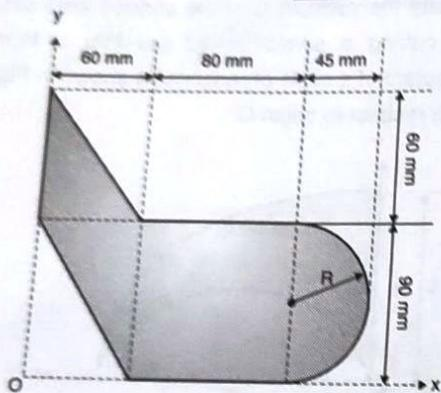

Fig. Q. 8
- Q. 8** Find the position of centroid of the plane of uniform thickness, shown in Fig. Q. 8 with reference to the origin 'O'. Find the distance of the centroid from the origin 'O'.